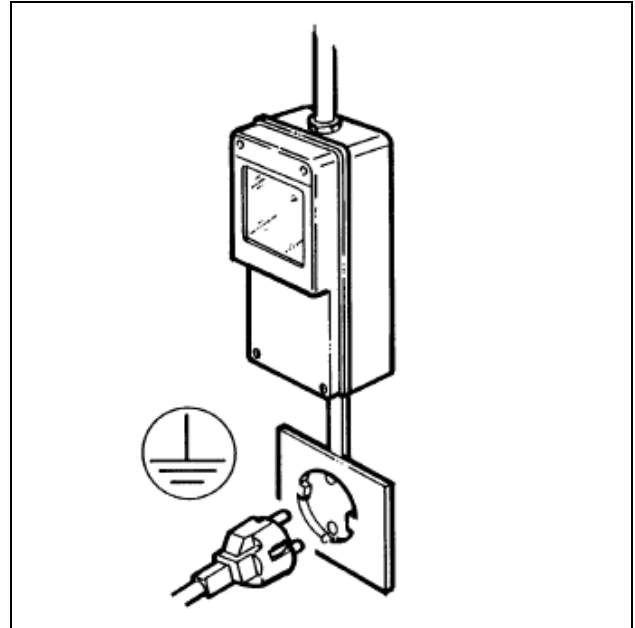

Fig. 21
- The machine's electrical safety is only guaranteed when it is connected to a suitable earth system, structured as provided by the national safety current regulations (fig.21). Therefore, the manufacturer cannot be held responsible for any damage due to failure of the grounding system of the machine.
- For a safe and correct installation, it is essential to provide a suitable socket controlled by a thermal cut-out switch whose contacts are at least 3 mm apart, in accordance with the current national safety regulations (see fig.21).